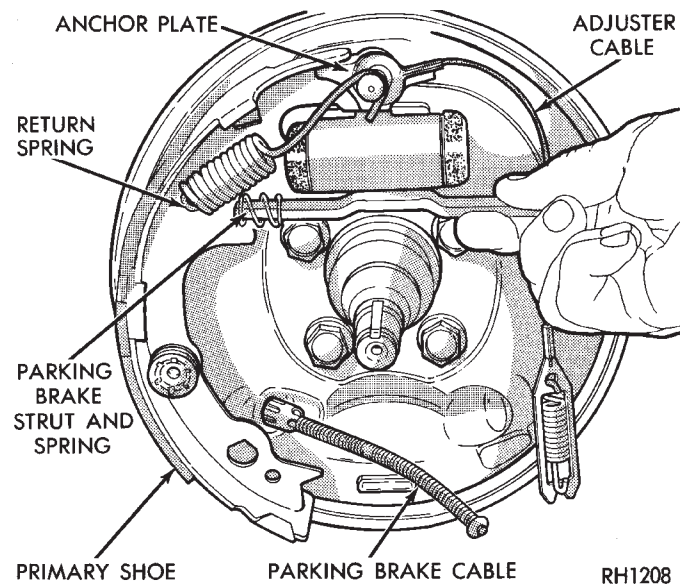

Fig. 6 Removing or Installing Parking Brake Strut and Spring
(4) Slide parking brake strut into slot in parking brake lever. Slide anti-rattle spring over free end of strut (Fig. 6).